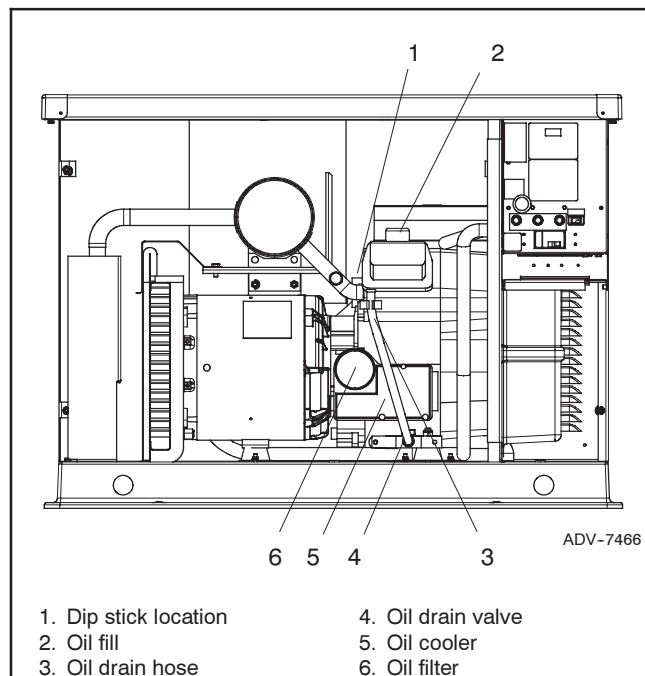

Figure 2-2 Lubrication System (typical)
See Section 2.1, Service Schedule, for oil change and oil filter replacement intervals. See Figure 2-2 for the oil drain, oil check, oil fill, and oil filter locations.
Check the oil level regularly and add oil as needed to protect against running out of oil. See Figure 2-2 for the dipstick and oil fill locations. Do not check the oil level when the generator set is running. Shut down the generator set and wait several minutes before checking the oil level.
- Remove the oil drain hose from its retaining clip. See Figure 2-2. Remove the cap from the oil drain hose and lower the hose into an oil collection container.
See Figure 2-2 and Figure 2-5 for the oil cooler location. Clean the outside of the oil cooler with a brush or compressed air. If it is necessary to clean the back of the oil cooler, remove the two screws holding the oil cooler unit to the blower housing. Tilt the cooler and clean with a brush or compressed air as shown in Figure 2-6. After cleaning, reinstall the oil cooler and secure with the mounting screws.